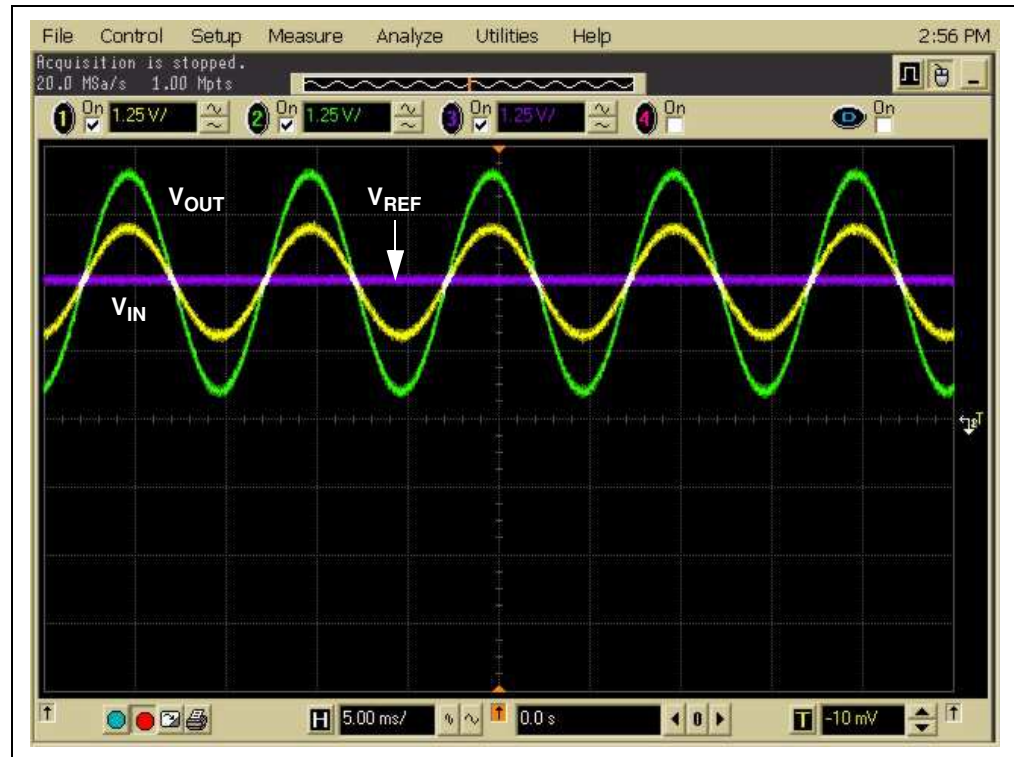

FIGURE 2-16: Measured Sine Wave Response.
- The measured sine wave response is shown in Figure 2-16. It is a sine wave signal with a frequency of 100.0 Hz, a peak-to-peak voltage of 4.0V and a center voltage of 2.5V